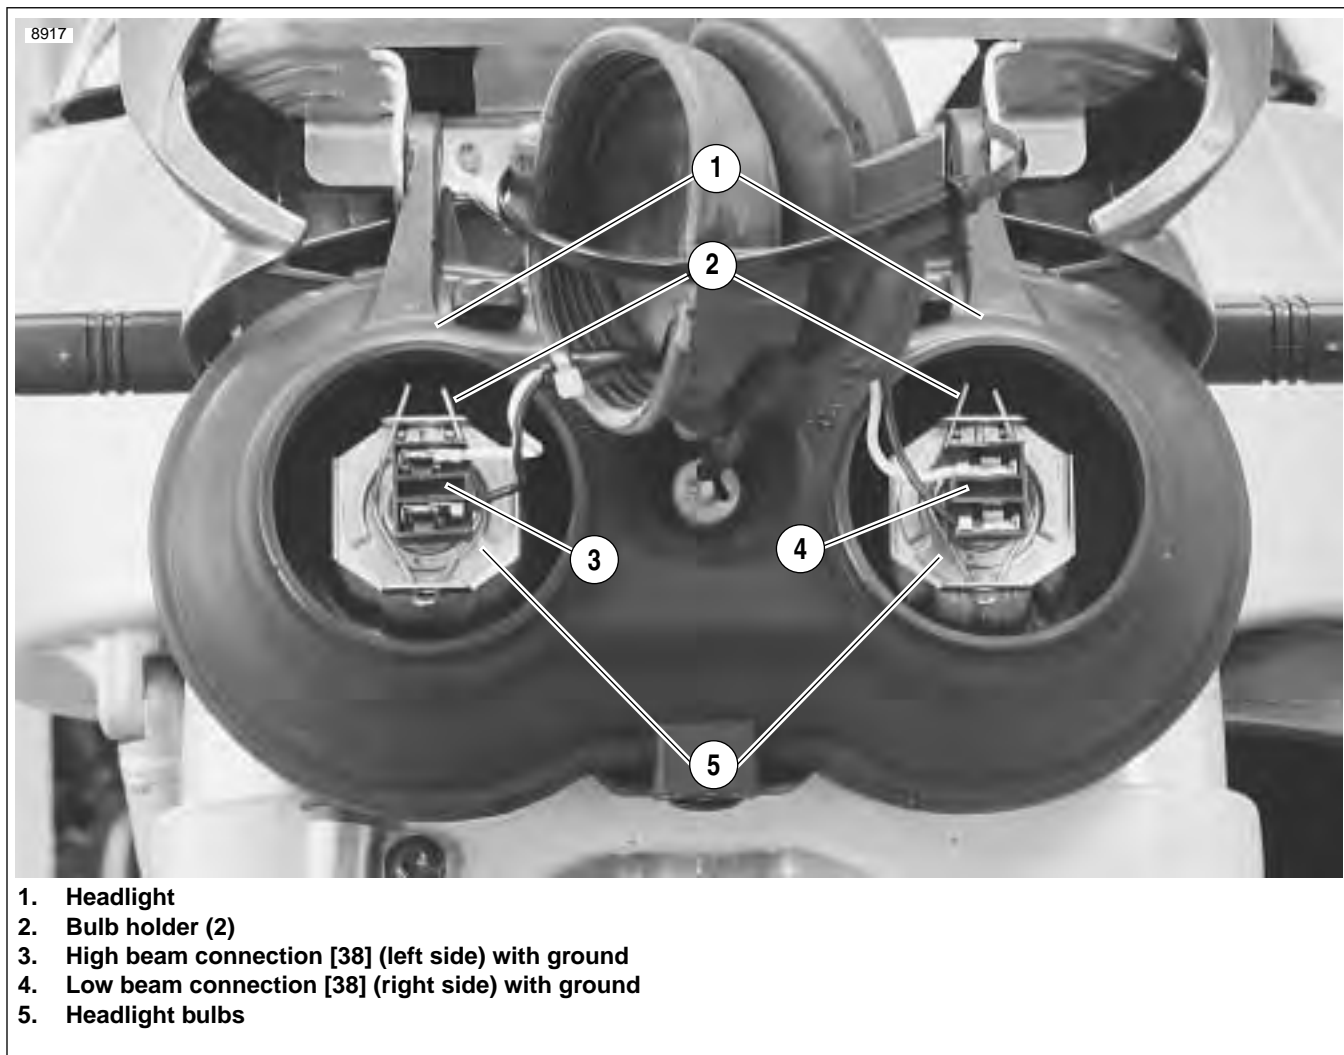

Figure 7-51. Headlight Assembly/Rear View
3. See Figure 7-51. Remove rubber boot from headlight housing.
4. Unplug headlight bulb connectors (3) and/or (4).
5. Release bulb holder (2) from headlight housing clips.
1. See Figure 7-51. Align tabs on bulb (5) with tabs on headlight (1). Insert bulb.
2. Close the bulb holder (2).